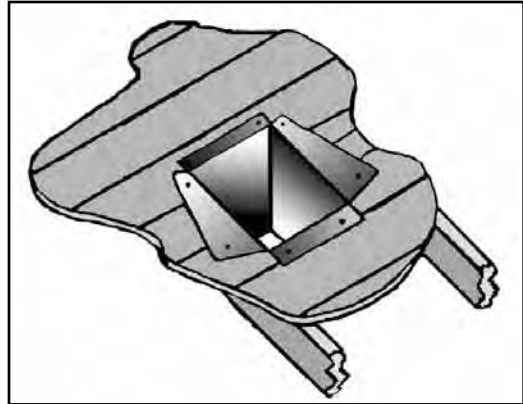

Figure 42: Cathedral Ceiling Support Box Installation.
- Using tin snips, cut the "Support Box" from the top corners down to the roof line, and fold the resulting flaps over the roof sheathing (Figure 42). Before nailing it in to the roof, run a bead of non-hardening mastic around the top edges of the "Support Box", to make a seal between the box and the roof. Clean out any combustible material from the inside of the "Support Box".
2. Remove the four (4) 1/4" screws that hold the flue collar elbow to the unit body.
3. Carefully remove the elbow being sure not to damage the gasket that is glued to the flue collar elbow, it seals the flue to the firebox (see Figure 42).